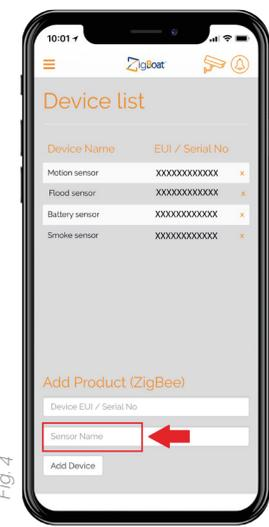

Fig. 4
2. You can change the devices name by selecting "Name" (fig. 4). Then, press the "Add Device" button.